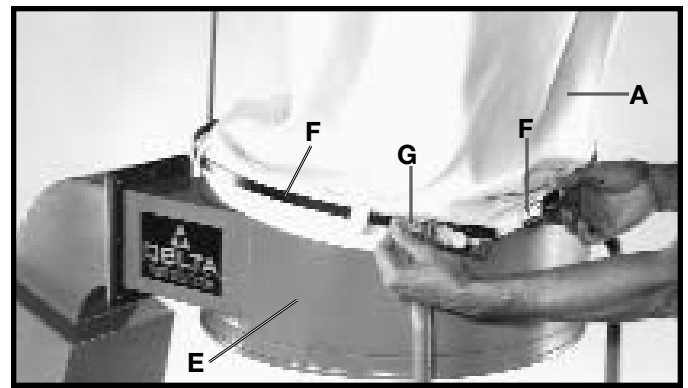
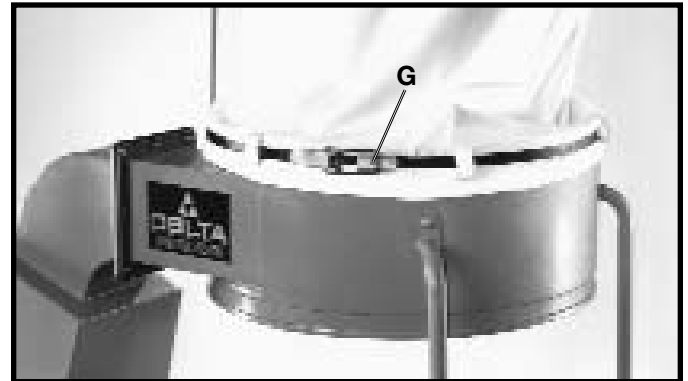

Fig. 20
Fig. 21
3. Position open end of filter bag (A) Fig. 20, over upper lip of support drum (E). Insert locking band (F) Fig. 20, through the loops of filter bag (A) and fasten with clamp (G) as shown in Fig. 21. **NOTE:** Make certain locking band (F) Fig. 20, is positioned in the channel of drum (E) before fastening clamp (G) Fig. 21.